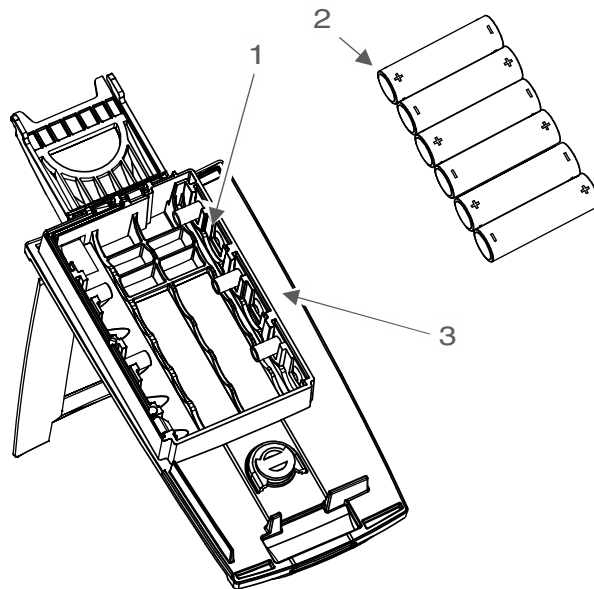

Figure 1. Multimeter Battery Location
Ensure that the batteries are installed following proper polarity. Polarity symbols can be found on rear cover (Figure 1., Item 3.)
1. Install six new batteries (Figure 1., Item 2) into the multimeter rear cover (Figure 1., Item 1).